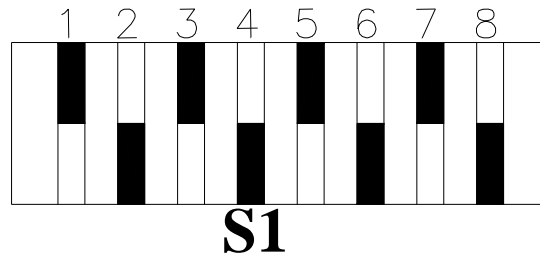

Figure 3.8-1 Remote Probe Controller Interface Board Setup
- A) Pull the remote probe controller assembly to the extended position and remove the top cover. Locate S1 on the interface board and set up the switches according to Figure 3.8-1, below.